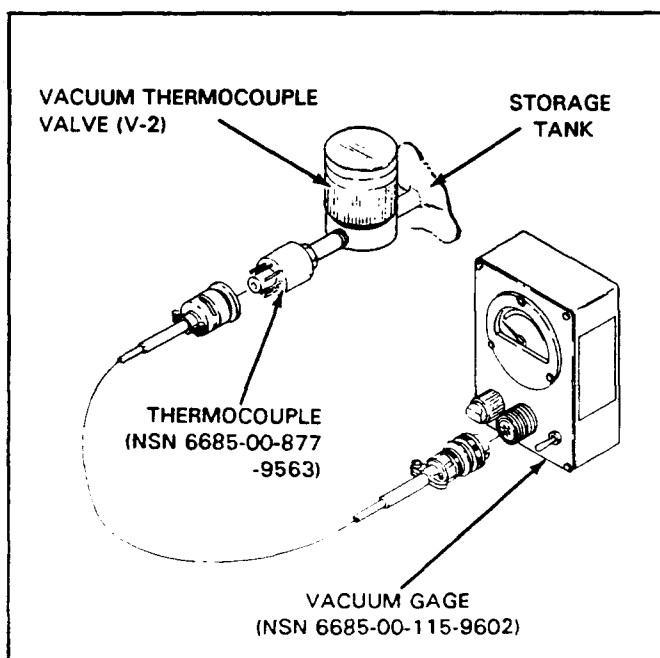

Figure 5-4. Gage, Vacuum
5-7.1. Vacuum Efficiency Test Procedure. (See Figure 5-4 and 5-5)
- b. Attach a portable thermocouple (vacuum) gage (Refer to Table 2-1) receptacle to the thermocouple tube (VI-1) as shown in Figure 5-4.